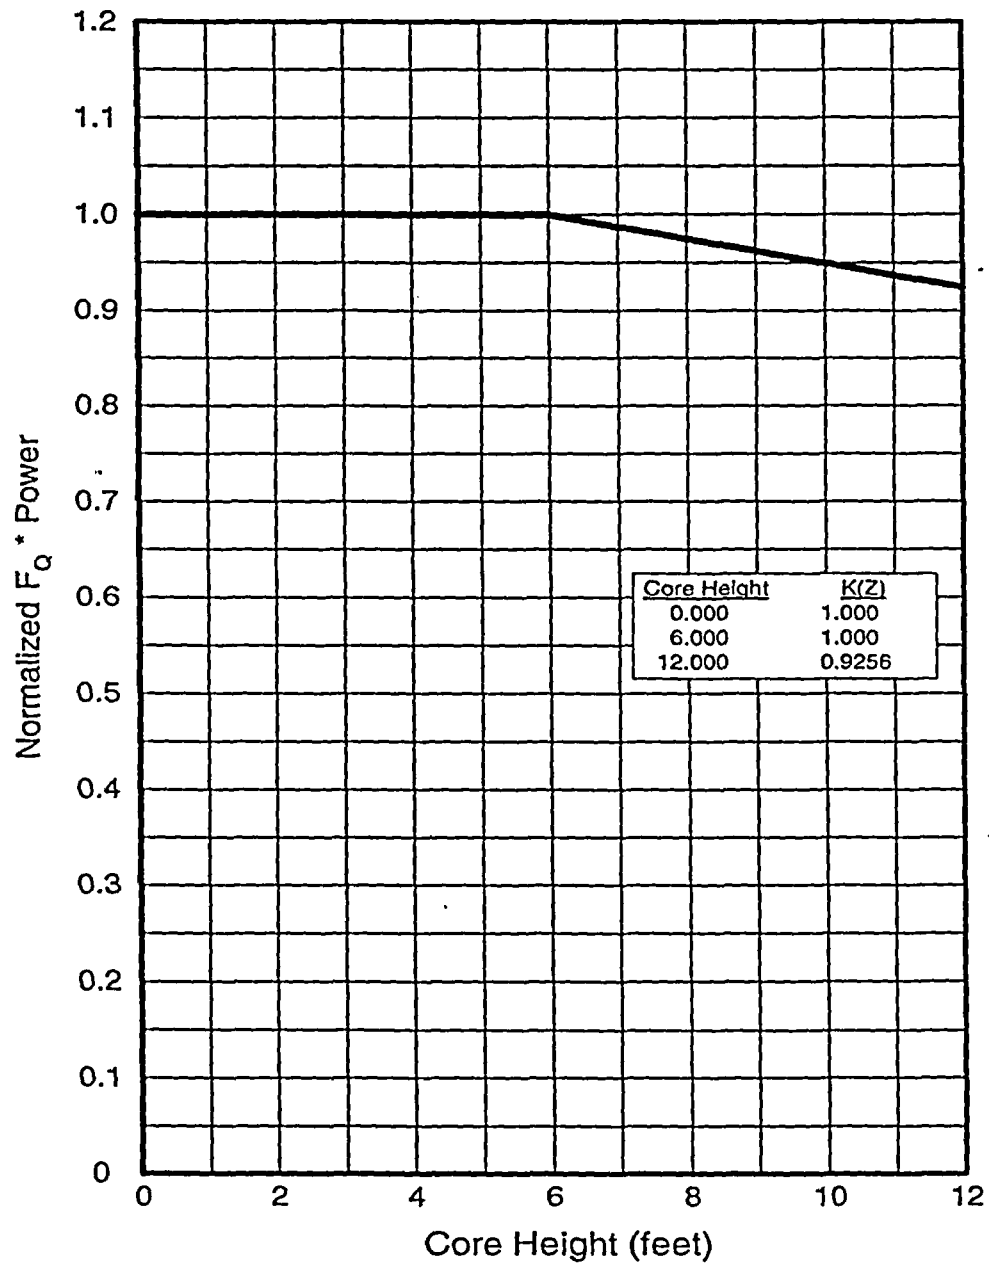

Figure 2
2.4.2 $K(Z)$ is provided in Figure 2.